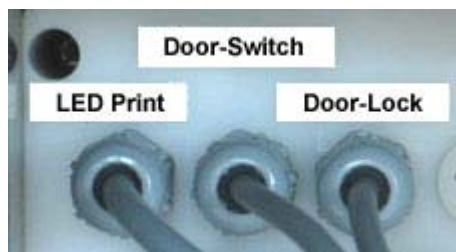

Figure 9.53 Back Plate Cables
3. Remove the cable from the back plate at the bottom (see Figure 9.53).